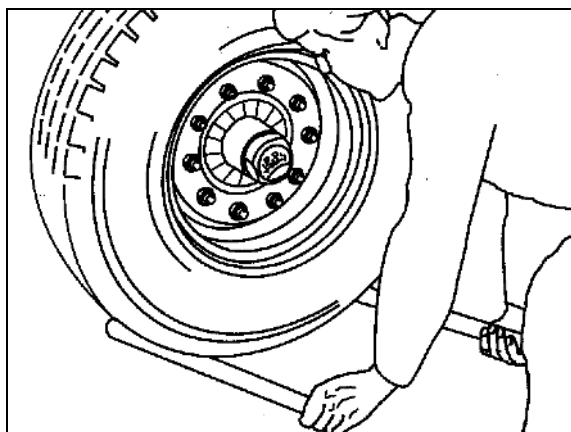

Fig. 123
1. Pull the drain valve (Fig. 123/1) in a side-ways direction using the ring until no more water escapes from the air reservoir.